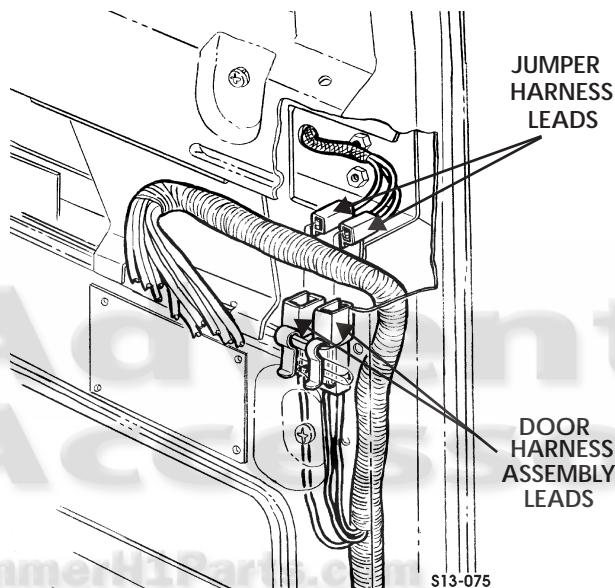

Figure 13-100: Power Mirrors Door Jumper Harness
3. Disconnect two door jumper harness leads from door harness leads (Figure 13-100). Pull door jumper harness through door.
1. Route door jumper harness through door (Figure 13-100).